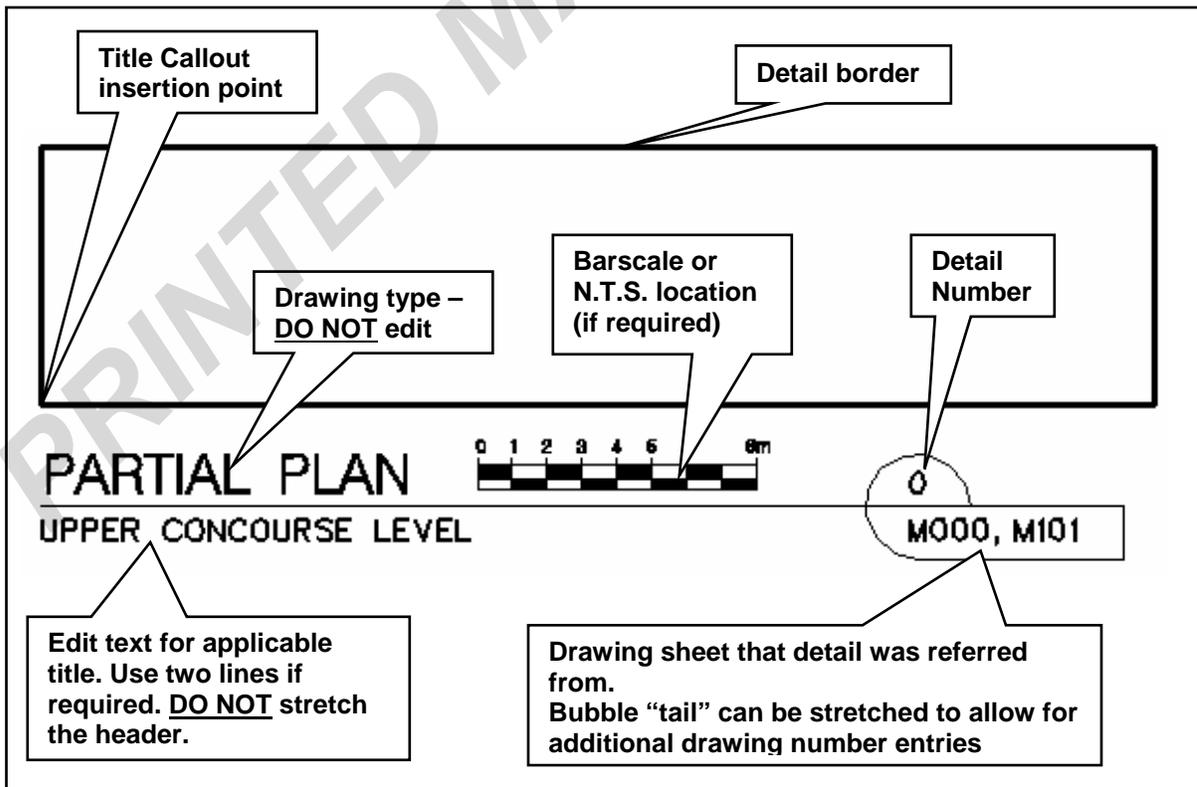

Figure 35c –Sub-Title Header (Referred to by a multiple sheets)
- **Sub-Title Header – Referred to by multiple sheets** (See Figure 35c). Inserted into drawing body for details that have been referred to by multiple sheet.